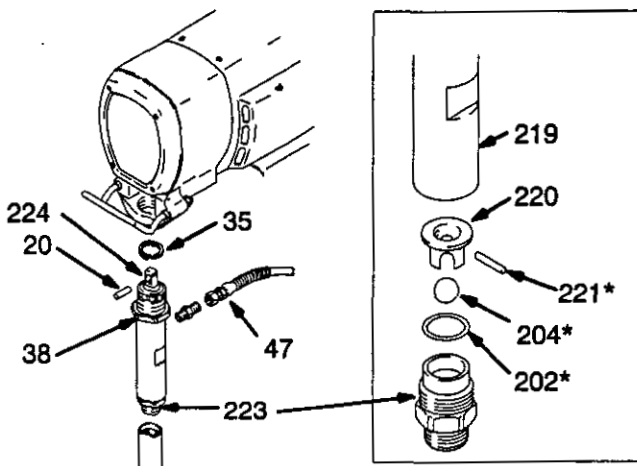

Fig. 27
Removing the pump See Fig. 27.
1. Unscrew the intake valve (223) and remove all parts. See Fig. 27.
- Assemble and install the intake valve. Use a **new** packing (202*). Tighten the valve to 90 N.m. See Fig. 27.